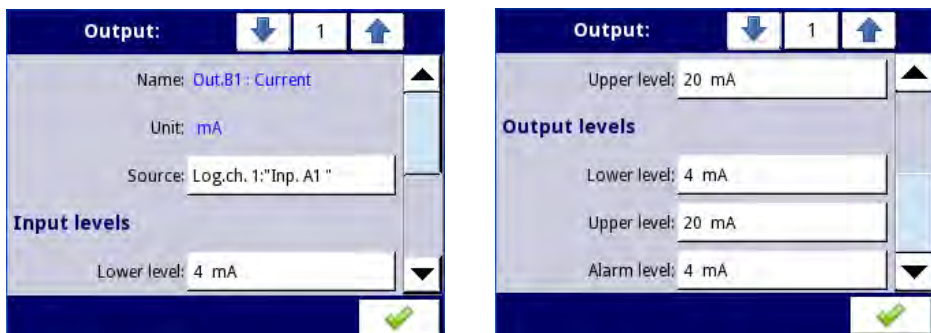

Fig. 7.91. Parameters of the Passive current output
- **Lower level** and **Upper level** - these parameters limit range of the output signal, below this range input signal will have Lower level value and above this range the signal will have Upper level value, relationship between Lower and Upper levels is linear and it is limited by defined range, see Fig. 7.91,